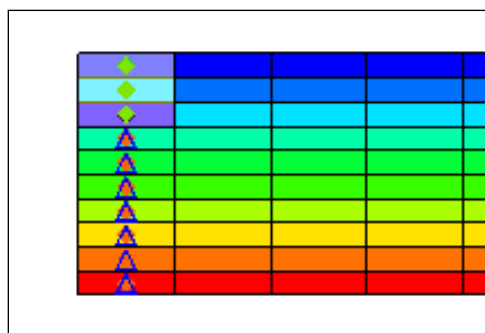

Figure 3 Top three cells in the leftmost column selected
1. Using the **Select Cells**  tool, while holding down the *Shift* key, select the top three cells in the leftmost column (Figure 3).